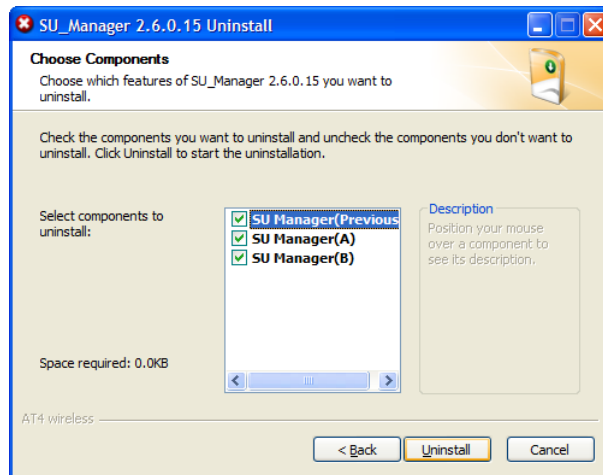

Figure 2-37: SU_Manager Uninstall Wizard – Choose Components
8. The *Choose Components* window displays, as shown in Figure 2-37. Click the **Uninstall** button.